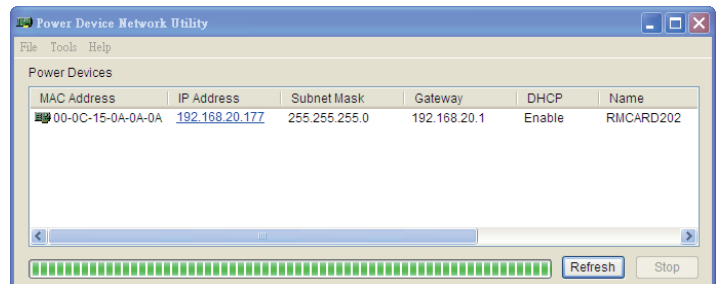

Figure 1. The main window of the "Power Device Network Utility" program.
3. The main dialog of the Power Device Network Utility Tool program is shown in Figure 1. The tool will display all Remote Management Cards present on the network. The "Refresh" button is used to search the entire local network again.